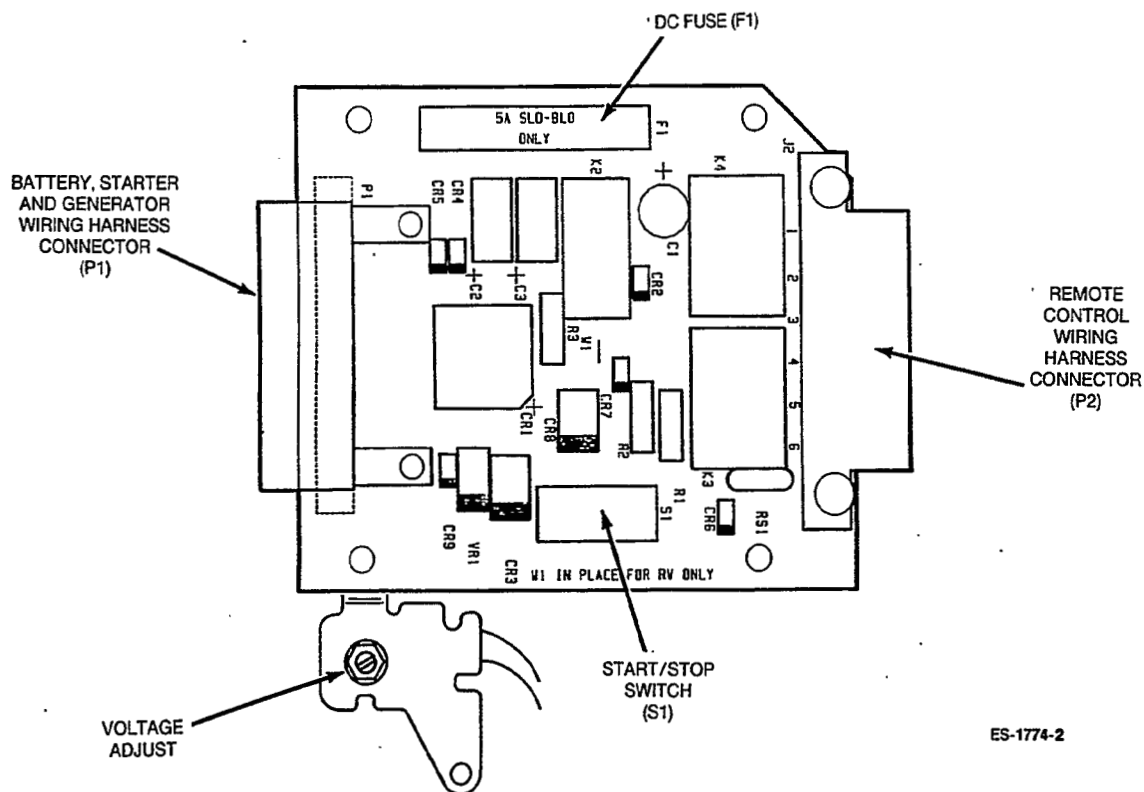

FIGURE 7-3. BGD, NHD CONTROL P.C.B. ASSEMBLY (A1)
2. Remove the control box cover (Figure 7-3) and separate it from control board A1 by removing the four screws on the back of the board.